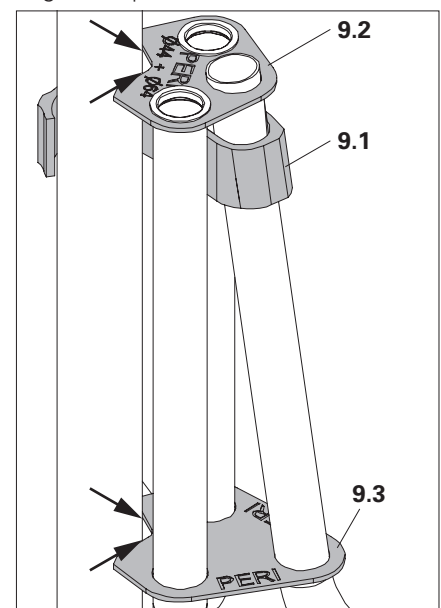

Fig. A1.03a
- Ensure that the Slab Prop lies flat against the top and bottom stop plate (9.2 + 9.3) (Fig. A1.03a)